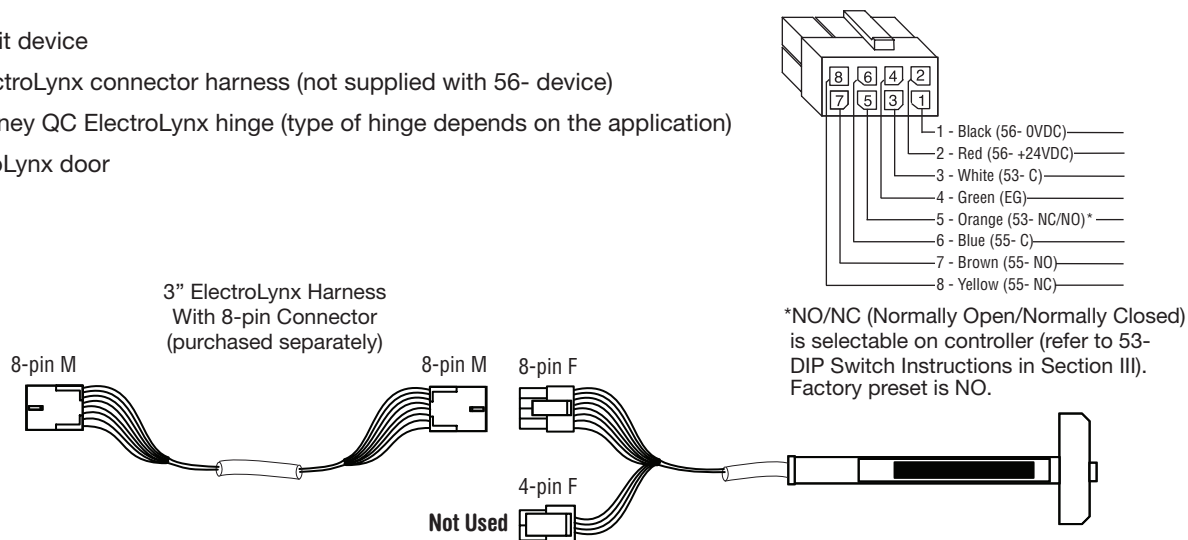

Fig. 8 ElectroLynx POWER MODE Wiring
2. Connect the ElectroLynx harness in the door (Fig. 8 ElectroLynx **POWER MODE** Wiring):
Note: Earth Ground is required for Electrostatic Discharge (ESD) protection unless the metal door and frame are already earth grounded; otherwise, earth ground wiring is required at pin 4 (Fig. 8 ElectroLynx **POWER MODE** Wiring).